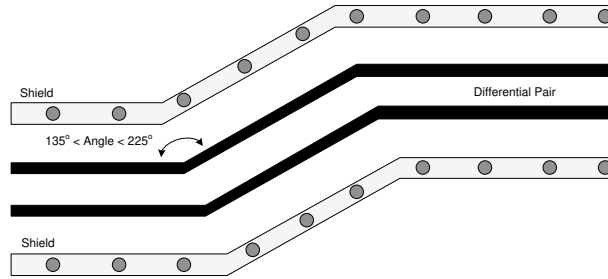

図 9-14. USB Routing Example
- Ensure that the bend angles associated with the differential signal pair are between 135° and 225°. (See 图 9-14).